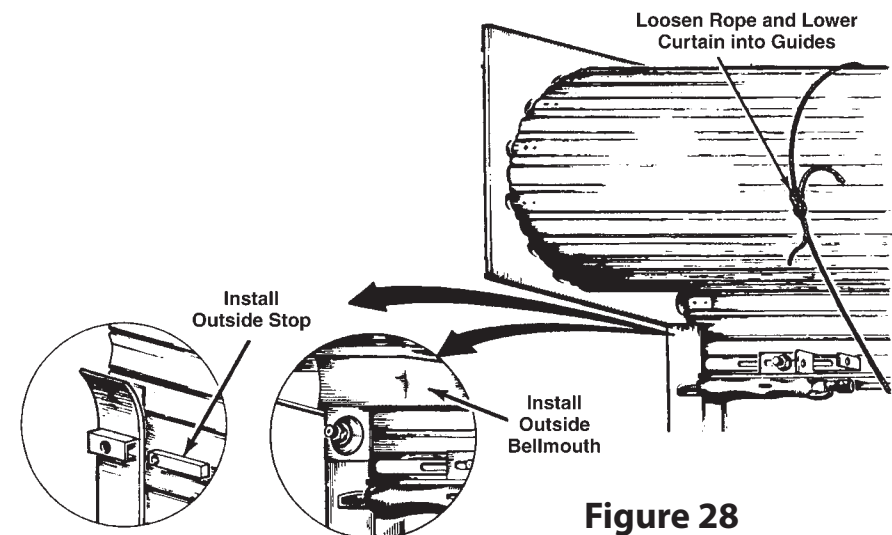

Figure 28
- If the door uses bellmouths: Install inside bellmouths and attach locking pliers approximately 4" below entrance to both LH and RH guides as shown in Figure 28.
- Install outside stops. See Figure 28 for flared guides and for guides with bellmouths.